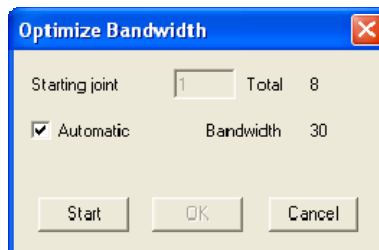

Figure 3-37 Optimize Bandwidth dialog box
- To optimize the solution and minimize the bandwidth, choose the OPTIMIZE button. The dialog box of Figure 3-37 appears.